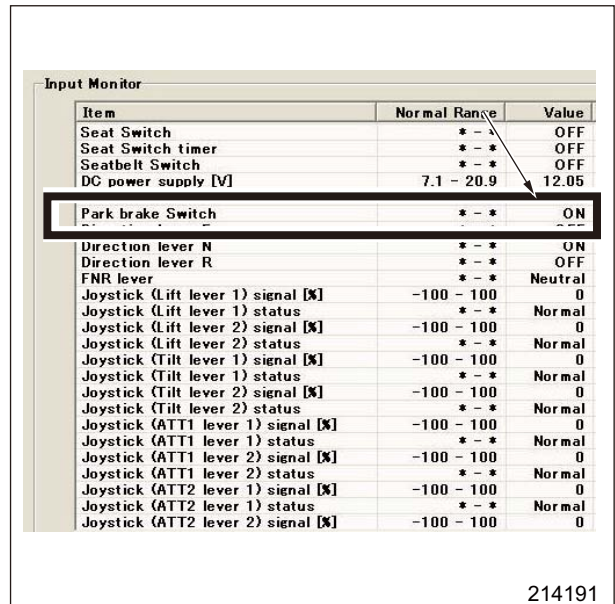
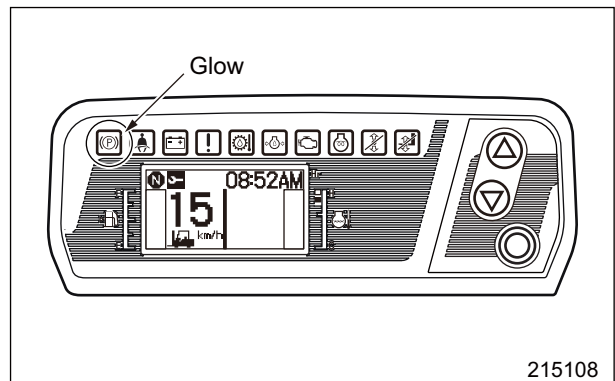

Fig. 4-2 Input monitor screen
Fig. 4-3 Instrument panel screen
- (5) Make sure the parking brake switch turns ON, on the input monitor screen. (Fig. 4-2) Also check that the parking brake warning lamp glows on the instrument panel. (Fig. 4-3)